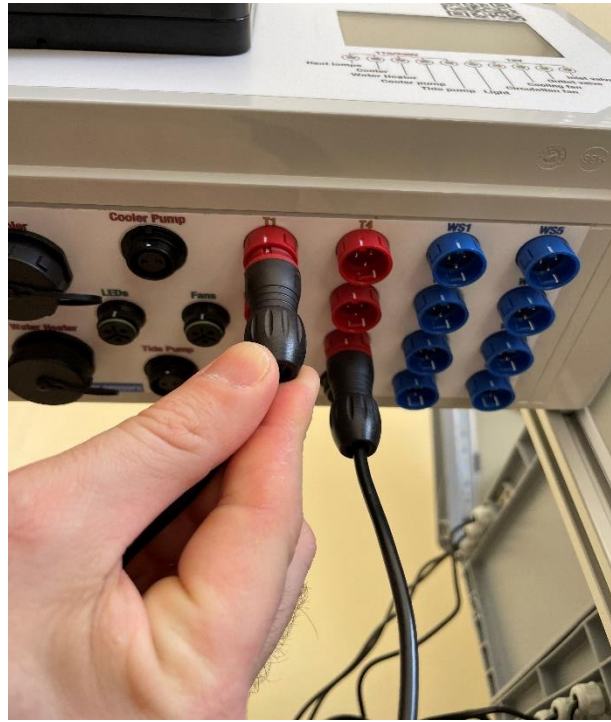

Fig. 7: Assembly step 5.
- 5- Connect the three sensors to T1, T2 and T3 connectors on the control Unit1 (**Fig. 7**). Notice the T6 might already be connected, as this sensor is supposed to be outside the tanks, measuring room temperature.